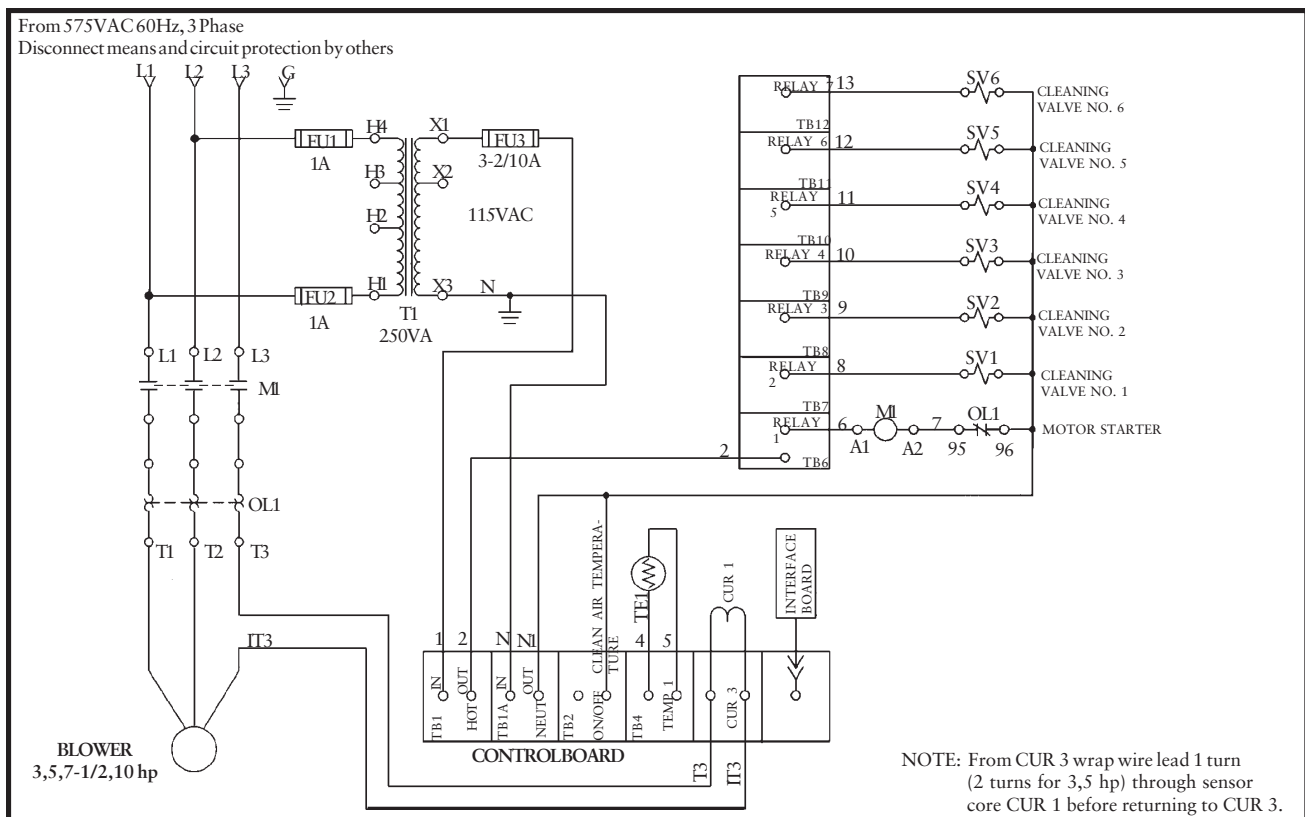

Figure 20
The unwired version with the Checker board on the unit has only the solenoid valves and the temperature sensor wired at the factory. A proper-sized motor starter needs to be mounted externally or in the electrical compartment. A proper-sized power cord and plug also needs to be installed. Using the wiring diagrams (Figures 20 through 27) make the proper connections to the blower motor, blower motor starter, and the Checker board. All electrical apparatus should be properly sized for the required voltage and motor full load amperage.
3. Wire from the terminal strip in the electrical compartment to the terminal strip in the remote enclosure (see Wiring Diagrams Figures 20 through 27).
For starting and operation, refer to the Installation and Operations Manual for the Checker board diagnostic and control panel. For wiring diagrams, see Figures 20, 21, 22, 23, 24, 25, 26, and 27 in this manual.